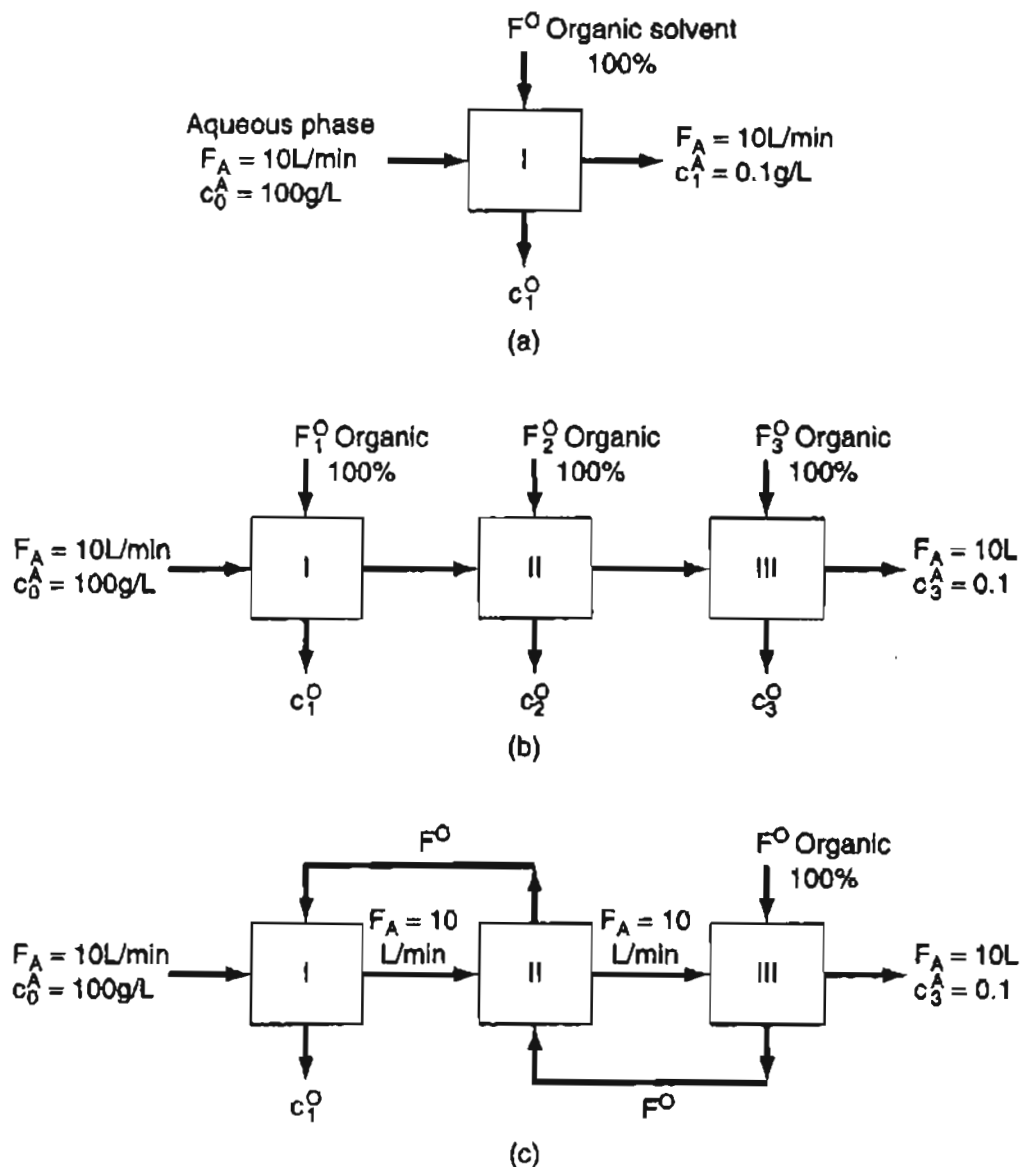

Figure P12.12
- **12.12** This problem is based on the data of G.F. Payne, "Bioseparations of Traditional Fermentation Products" in *Chemical Engineering Problems in Biotechnology*, ed. M.L. Schuler. American Institute of Chemical Engineers, New York: 1989. Examine Figure P12.12. Three separation schemes are proposed to separate the desired fermentation products from the rest of the solution. Ten liters/min of a broth containing 100g/L of undesirable product is to be separated so that the concentration in the exit wastestream is reduced to (not more than) 0.1 g/L. Which of the three flowsheets requires the least fresh pure organic solvent? Ignore any possible density changes in the solutions. Use equal values of the organic solvent in (b), i.e., $F_1^O + F_2^O + F_3^O = F^O$. The relation between the concentration of the undesirable material in the aqueous phase and that in the organic phase is 10 to 1 that is, $c^A/c^O = 10$ in the outlet streams of each unit.